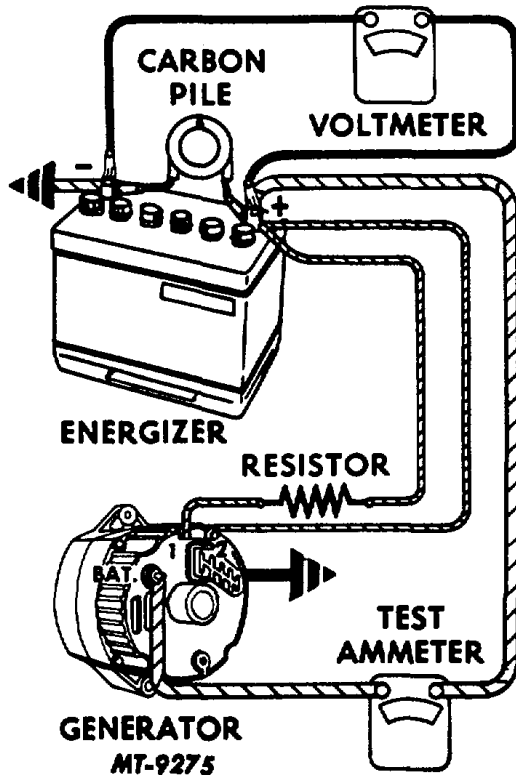

Fig. 12 Connections for Bench Check of Alternator
1. Make connections as shown in Fig. 12, except leave the carbon pile disconnected. **IMPORTANT:** Ground polarity of energizer or battery and generator must be the same. Use a fully charged battery and a 10 ohm resistor rated at six watts or more between the generator No. 1 terminal and the battery.